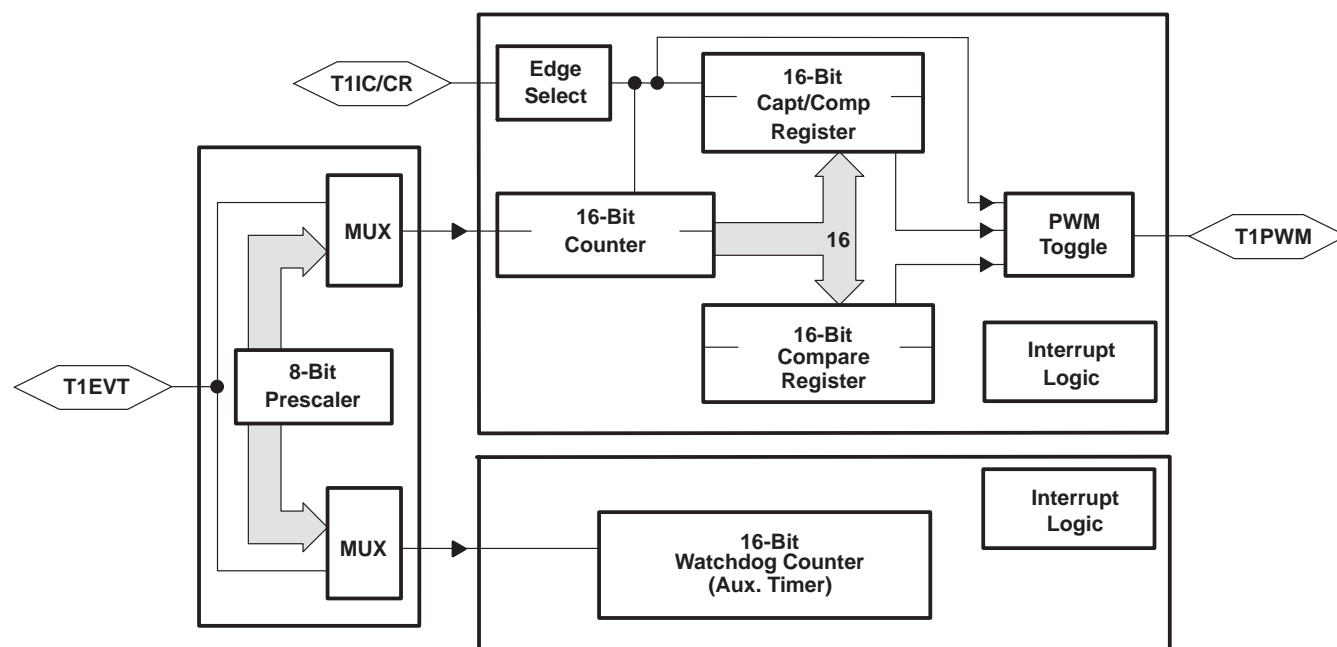

Figure 5. Timer 1 Block Diagram
The programmable Timer 1 (T1) module of the TMS370Cx8x provides the designer with the enhanced timer resources required to perform real-time system control. The T1 module contains the general-purpose timer and the watchdog (WD) timer. The two independent 16-bit timers, T1 and WD timer, allow program selection of input clock sources (real-time, external event, or pulse accumulate) with multiple 16-bit registers (input capture and compare) for special timer function control. The Timer 1 module includes three external device pins that can be used for multiple counter functions (operation-mode dependent), or used as general-purpose I/O pins. The T1 module block diagram is shown in Figure 5.